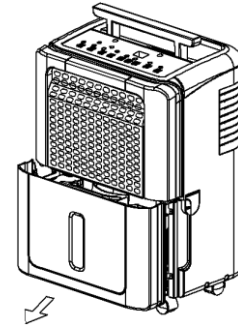
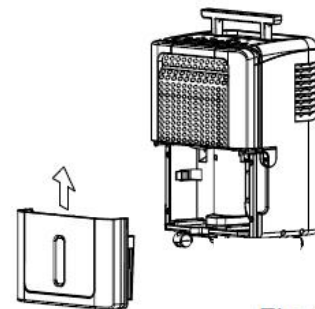

Fig.5
Fig.6
- Slowly pull out the bucket. (Fig 5) Grip the left and right handles securely, carefully pull the bucket out to prevent water spillage. (Fig 6) Do not put the bucket on the floor as the bottom of the bucket is uneven and it may tip.